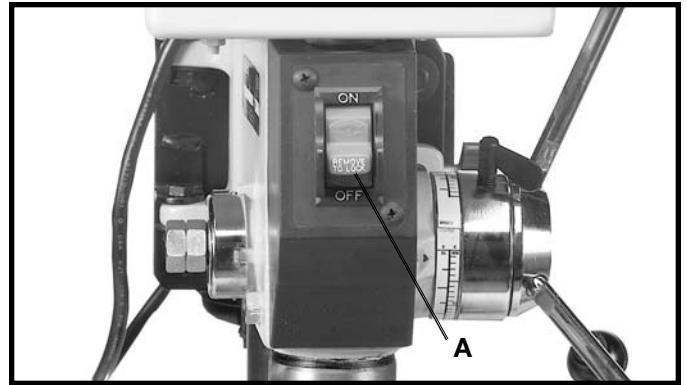

Fig. 21
The switch (A) Fig. 21, is located on the front of the drill press head. To turn the drill press “ON” move the switch to the up position. To turn the drill press “OFF” move the switch to the down position.